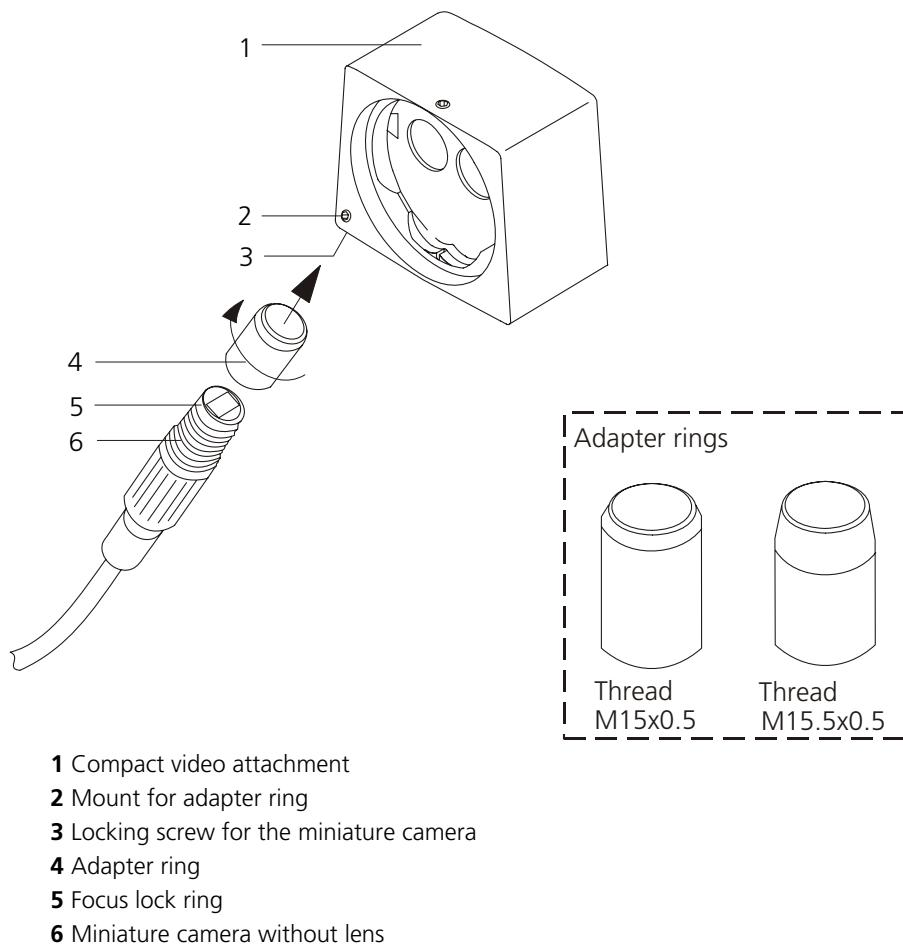

Fig. 21 Attaching the miniature camera
- Rotate the camera head's focus lock ring (**5**, Fig. 21) until it is as far back as it will go.
- Screw the adapter ring (**4**, Fig. 21) for the camera being used onto the thread of the miniature camera (**6**, Fig. 21). Secure the adapter ring carefully using the focus lock ring (**5**, Fig. 21).
- Insert the adapter ring into the opening (**2**, Fig. 21) in the compact video attachment (**1**, Fig. 21) and observe the monitor image.
- When the focus and image position are correct, tighten the locking screw for the miniature camera (**3**, Fig. 21) in order to lock the camera.